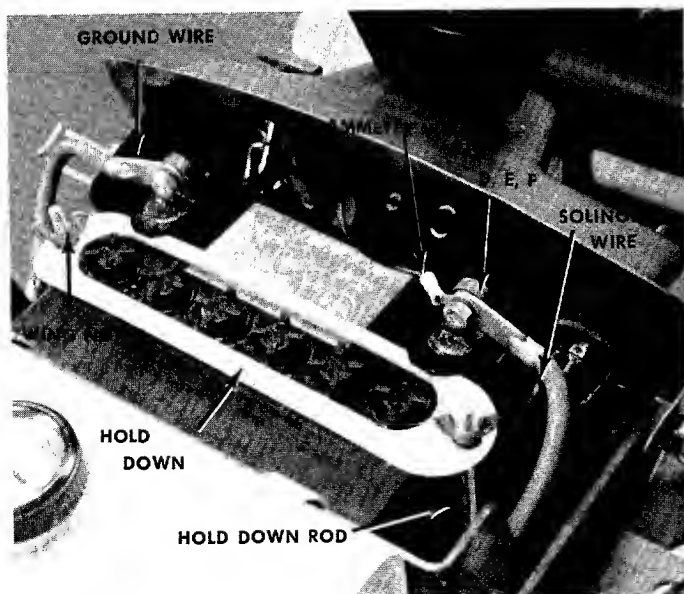

FIGURE 3. INSTALLING THE BATTERY
- b. Place the battery, with the terminals to the rear in the battery case. See figure 3.